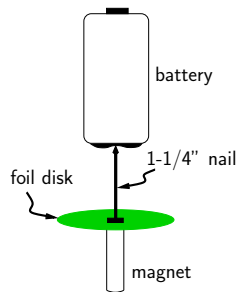

Figure 12.8: Battery, nail, foil, and magnet combination.
1. Cut out a disk of aluminum foil at the front table. Put the items shown in Figure 12.8 together, holding the arrangement up in the air. The cylindrical magnet turns the nail into a magnet temporarily and the nail can then hang suspended from the bottom of the battery. The aluminum foil disk is just there for visual enhancement.